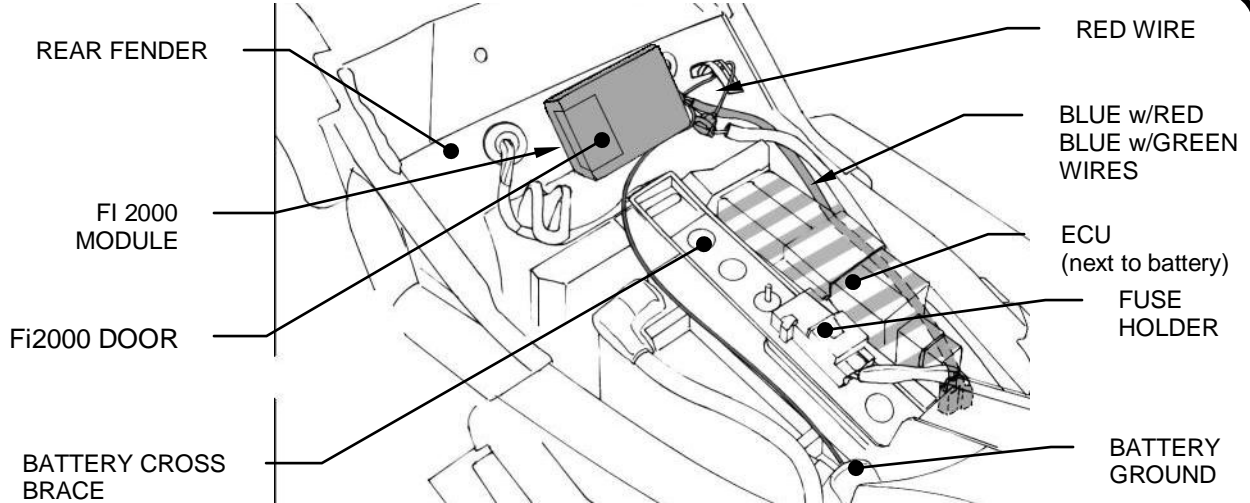

FIGURE 1
2. Remove the battery cross brace by unscrewing the phillips head screw and unattaching the fuse box from the brace. See figure 1.
3. Locate the ECU next to the battery and lift it straight up and out to locate the BLUE w/RED stripe wire and the BLUE w/GREEN stripe wire on the harness going to the ECU. Attach a t-tap connector to each of these wires about an inch from the connector on the ECU. See figure 1
4. Plug the Fi2000 module's BLUE w/RED stripe and BLUE w/GREEN stripe wires to the corresponding ECU wires with the t-tap connectors and replace the ECU to its original location. Make sure to route the wires so they do not get pinched by the seat when installed. See figure 1. **Note:** Make sure not to attach the t-tap connectors closer than 1" to the stock ECU connector.
6. Locate the RED wire at the tail light harness plug (the wire harness goes through the grommet in the rear fender). and attach a t-tap connector there. See figure 1.
7. Attach the Fi2000 module's RED wire to the t-tap connector installed in step 6 and the BLACK wire to the negative post of the battery. Make sure to route the wires so they do not get pinched by the seat when installed as shown in figure 1
8. Remove the backing from the Velcro and attach the module on the rear fender between the two grommets as shown in figure 1.
9. Before re-installing the seat, verify your connections. Remove the door from the Fi2000 box to expose the LED's. Verify the wire connections by (1) turning the ignition on, prior to starting, and see if all three LED's are on steady. If you have no light, either your ground connection (BLACK wire) is not solid or, (more likely) your RED wire connection is incorrect. You have either tapped on the wrong wire or the tap has not made contact. (2) After achieving a steady light from all three LED's, start the motorcycle and let it idle, the green light should now be the only LED on. If all three LED's are still on after start up, your BLUE w/RED stripe wire connection is incorrect; if all three LED's are flashing, your BLUE w/GREEN stripe wire connection is wrong. Again verify correct color and tap contact. Reattach the door when finished. **Note:** Make sure the ignition is turned off before changing any connection.